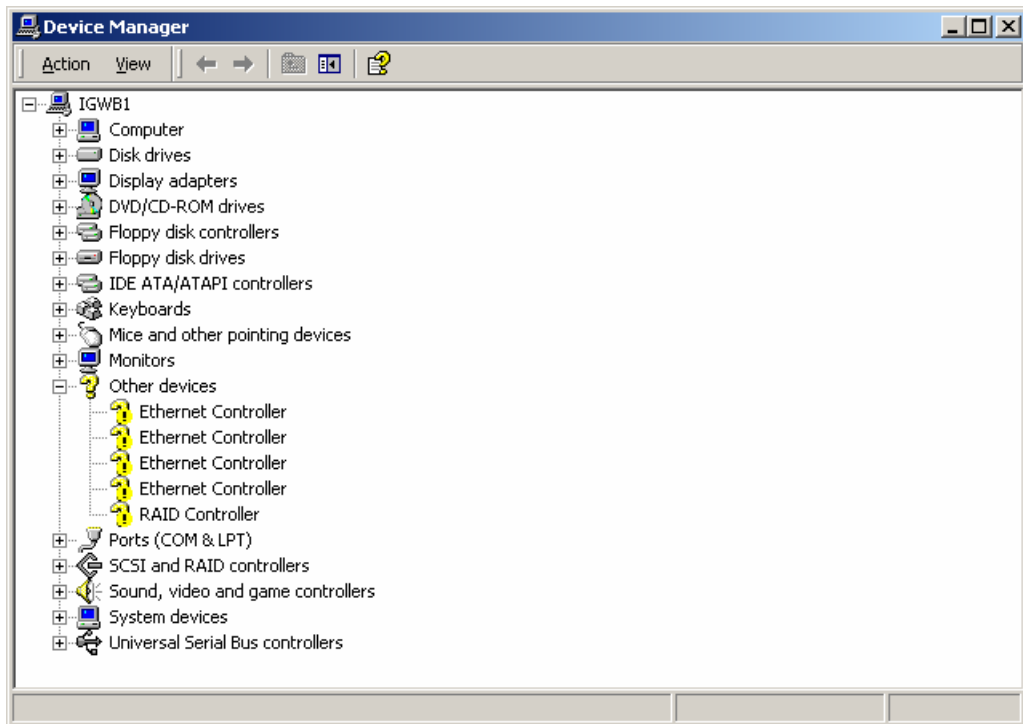

Figure 2-26 [Device Manager] window
- 3) Click <Device Manager...>. The [Device Manager] window is displayed. All Ethernet adapters and RAID adapters that are found but not operating well are displayed under the [Other devices] node. See Figure 2-26.